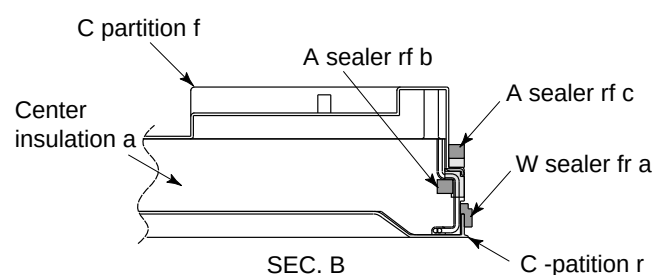

Figure A-7
8. Set Center insulation a on C-partition f. (Figure A-7)